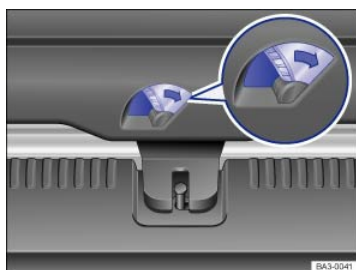

Fig. 186 Inside the luggage compartment: Unlocking the trunk lid.
- Push the lever in the direction of the arrow ⇒ Fig. 186. The trunk lid opens automatically. At temperatures under +32 °F (0 °C), you may have to push the trunk lid open manually.